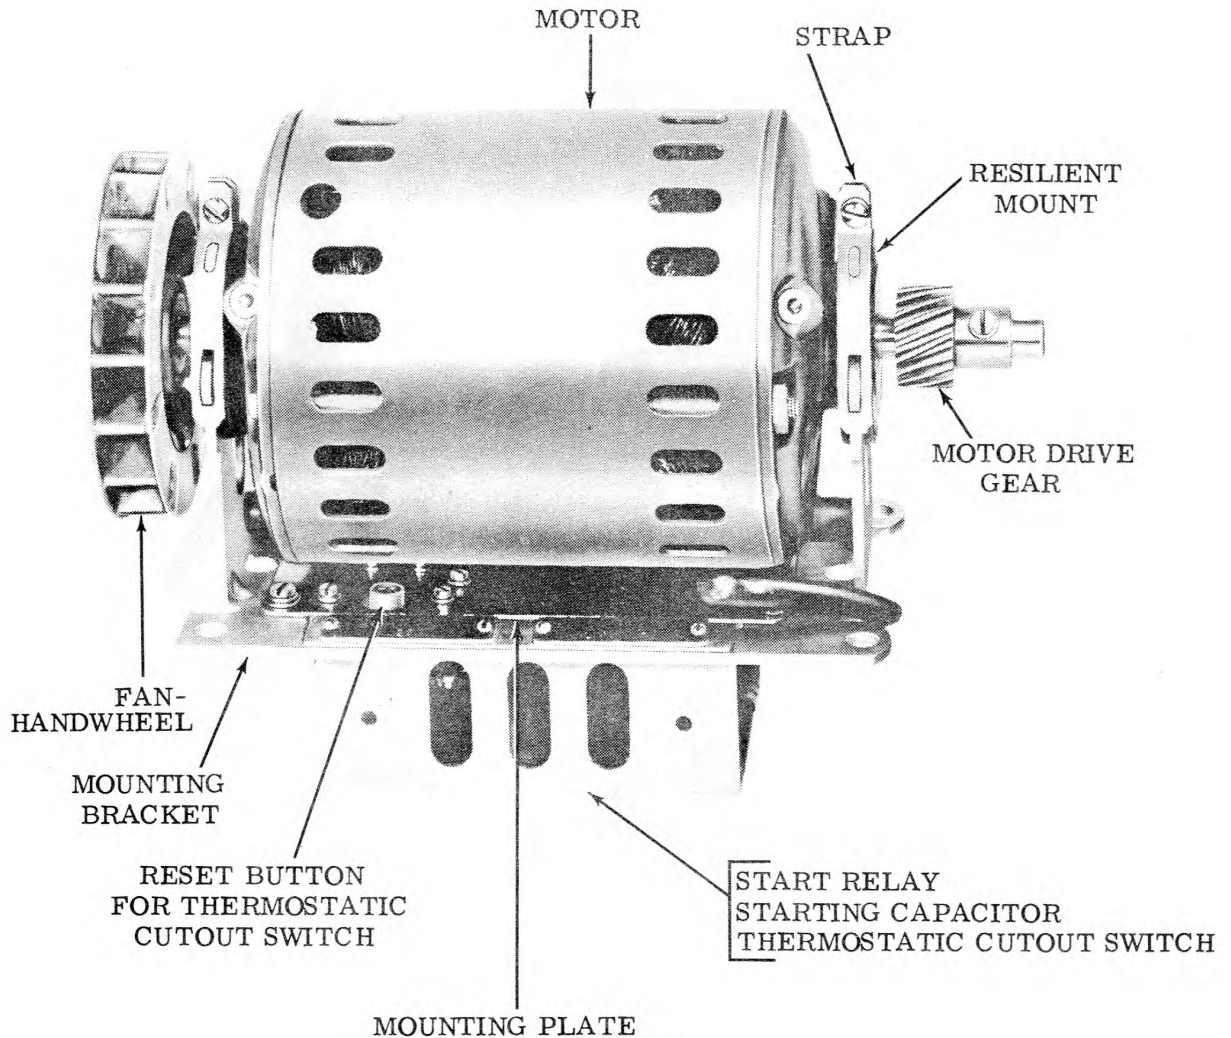

Figure 2 - Typical Standard or Heavy Duty Synchronous Motor Unit
B. Standard and Heavy Duty Synchronous Motor Units (Figure 2)